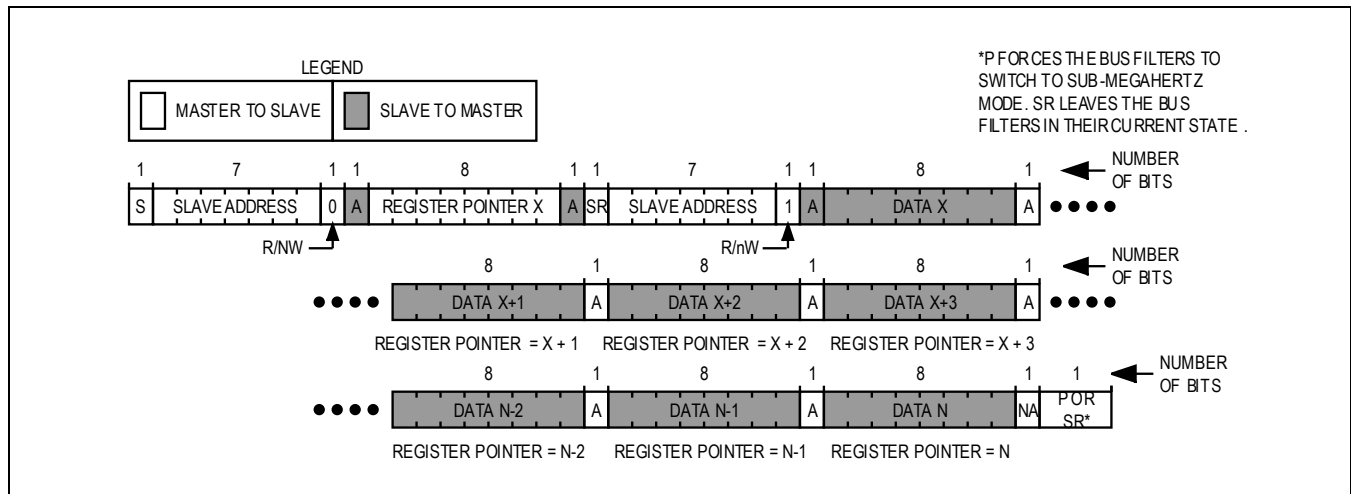

Figure 40. Reading Continuously from Sequential Registers X to N
Figure 40 shows the protocol for reading from sequential registers. This protocol is similar to the read-byte protocol except the master issues an acknowledge to signal the slave that it wants more data: when the master has all the data it requires it issues a not acknowledge (nA) and a stop (P) to end the transmission.